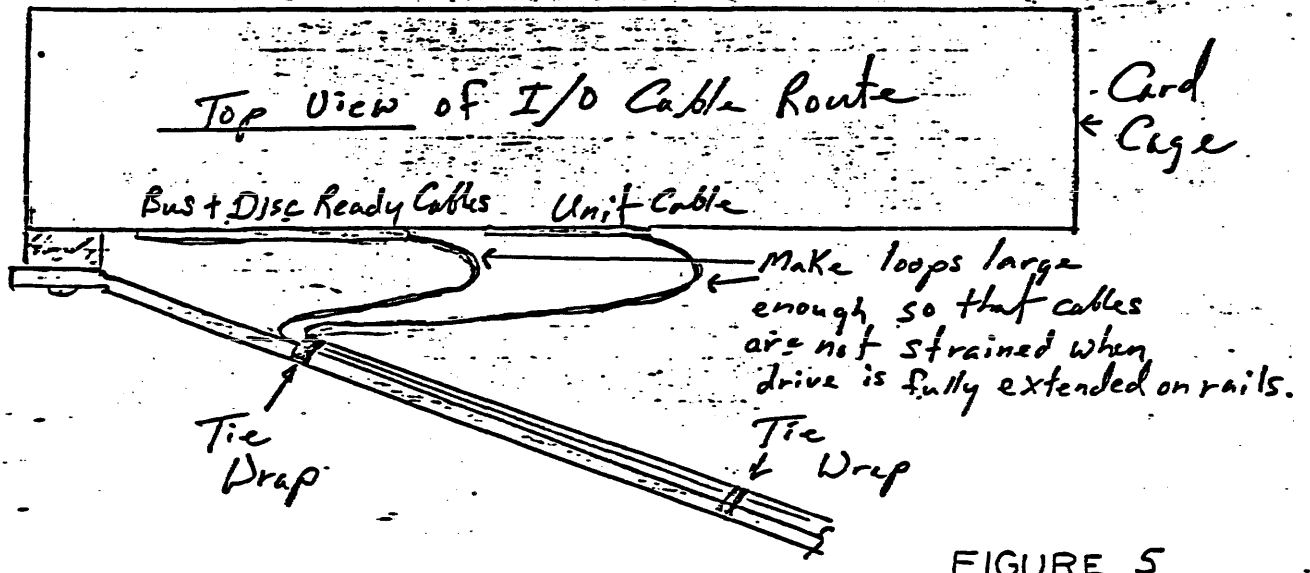

FIGURE 5
22. Place two cable clamps on the face of the disc drive cardcage as shown in Figure 5.
24. Connect the Buss Cable to OM2 and the Radial Cable to OM3. Route them through the cable clamps on the disc cardcage as shown in Figure 5. Also route the Disc Ready Cable through the clamp as shown in Figure 5.